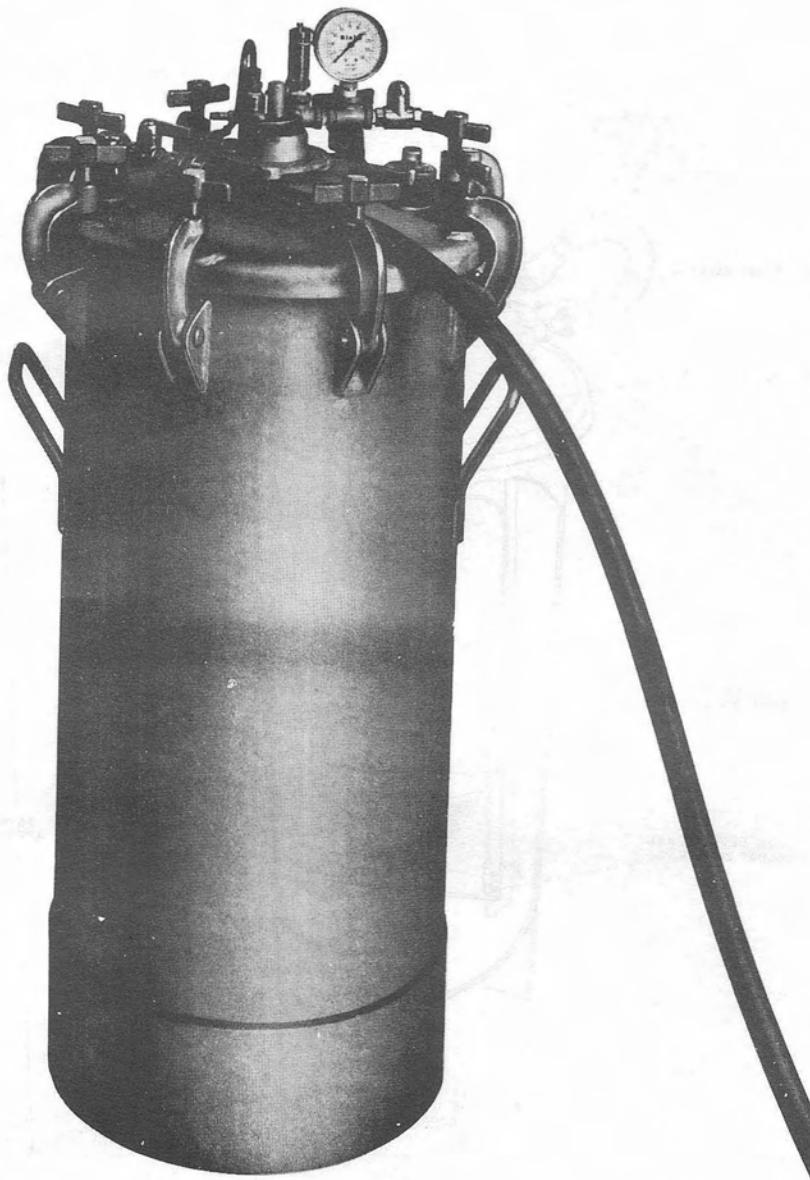

Fig. 8—C Tank
4.12 The C tank is a galvanized steel pressure vessel, approximately 36 inches tall and 14 inches in diameter. It weighs approximately 125 pounds when empty. The tank consists of two main parts: the body and the cover. A crank handle for the agitator is also furnished. The C tank is illustrated in Fig. 8, 9, 10, 11, and 12. The cover assembly has the following features: